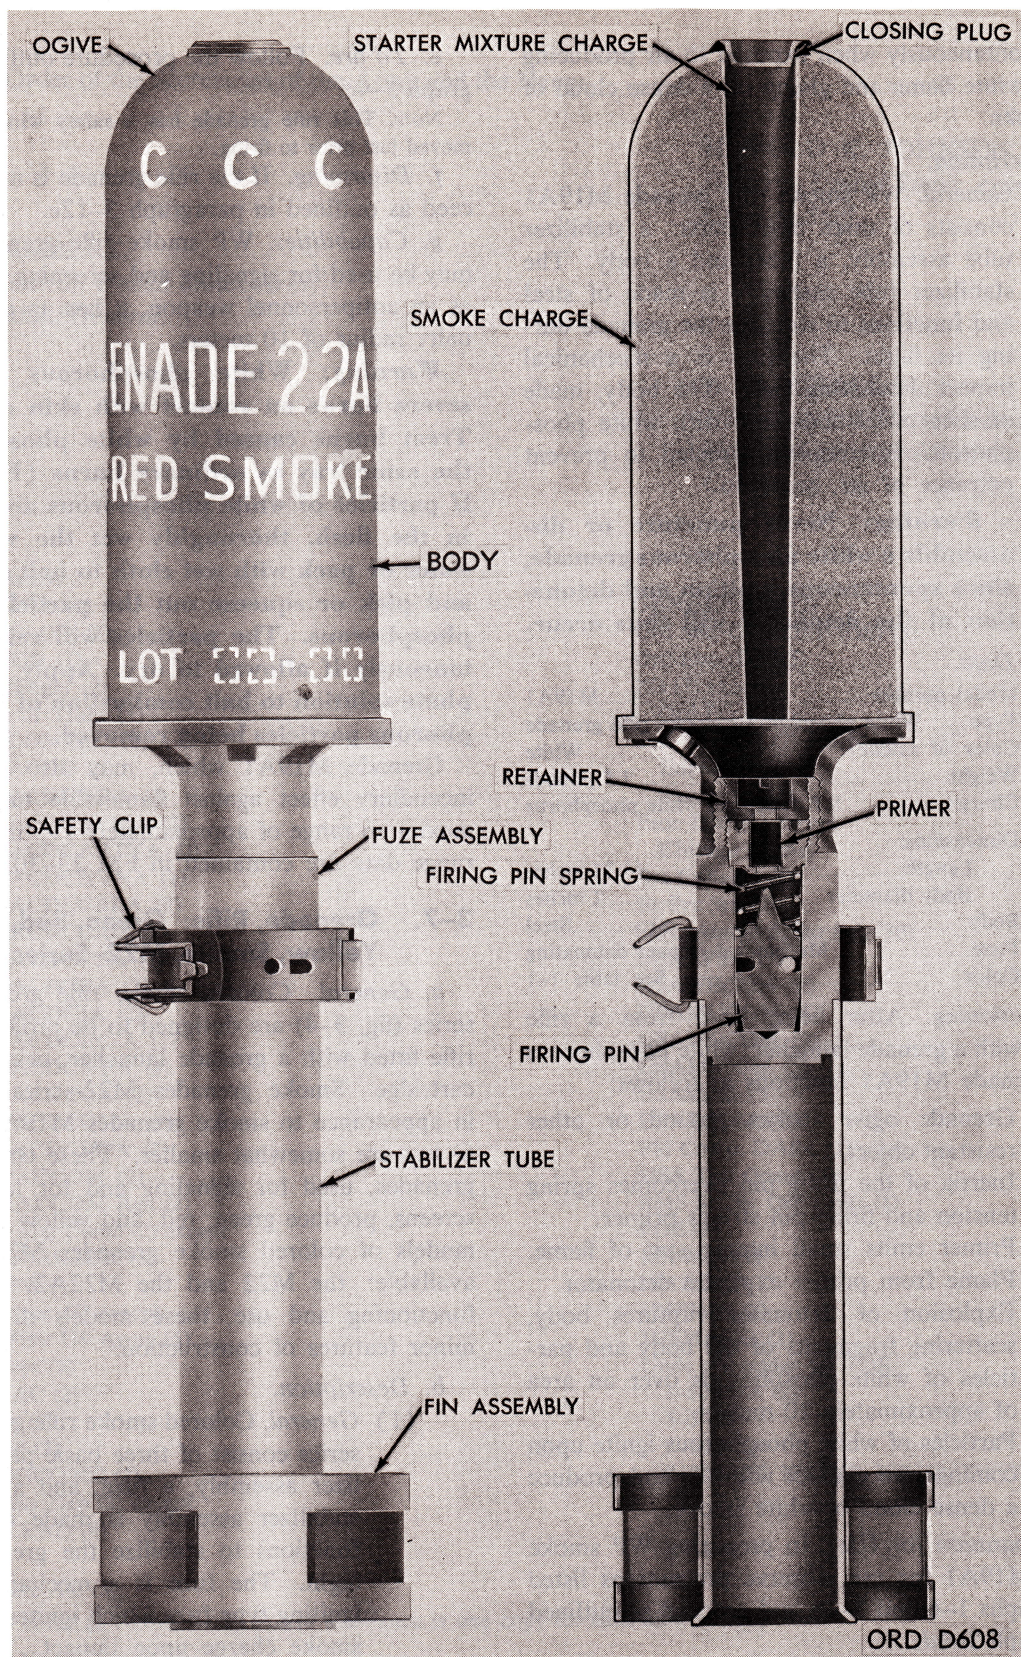

Figure 3-4. Grenade, rifle: colored smoke, M22A2.
a. General. This rifle grenade (fig. 3-4) is a fin-stabilized, point-initiated, base-fuzed, high-explosive, antitank grenade. The grenade employs a shaped charge of high explosive for the defeat of armor plate or concrete, and is effective against targets at all angles of obliquity up to 65°. The grenade uses a piezoelectric assembly (LUCKY) which generates an electric current by being squeezed on impact with the target. This action initiates the explosive train.
a. General. Colored smoke rifle grenades M22-series (fig. 3-4) are designed to be projected from a rifle fitted with a grenade launcher, using a grenade cartridge. Smoke grenades M22-series are similar in appearance to smoke grenades M19A1 (para. 3-6) but are somewhat smaller. These colored smoke grenades, used for signaling and for laying smoke screens, produce green, red, and yellow smoke. Two models of colored smoke grenades M22-series are available: the M22 and the M22A2. Identical in functioning and use, these models differ only in minor features of construction.
- (1) *General.* Colored smoke rifle grenade M22-series consist of three basic parts: a stabilizer assembly, a fuze, and a body. The stabilizer assembly is made of steel and functions to stabilize the grenade during flight. The fuze is a mechanical impact igniting type fuze which ignites the colored smoke charge upon impact. The body is
made of sheet steel and is filled with a burning type smoke charge which contains a dye to color the smoke. The surfaces of the smoke charge within the body are coated with a starter mixture charge to facilitate ignition (fig. 3-4). A small opening or air hole in the nose of the ogive is covered by a nose closing plug, which is not removed when the grenade is fired.